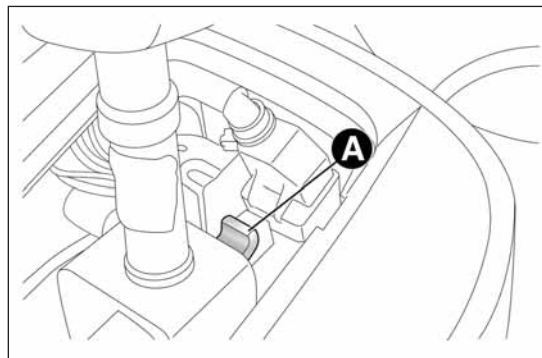

fig. 5
**If the battery is flat, to release the lever you need to remove the gaiter and operate the lever A fig. 5.**